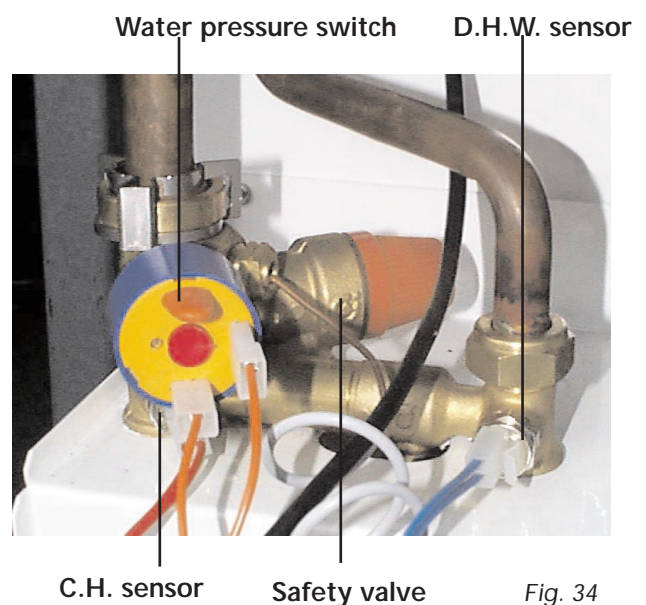

Fig. 34
7.07.1 D.H.W. temperature sensor or Central Heating Temperature Sensor (fig. 34)
- Identify the sensor from figure 34
7.07.2 Water Pressure Switch (fig. 34)
- Identify the switch from figure 34
7.07.3 Safety Valve (fig. 34)
- Identify valve from fig. 34